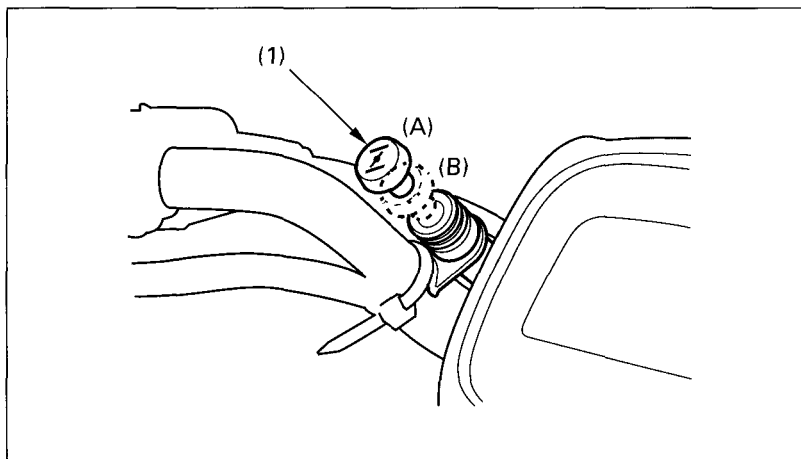

Fig. 2-7
The choke knob (Fig. 2-7 ) is located on the left side of the handlebar. The choke has two positions: fully ON (A), and fully OFF (B).